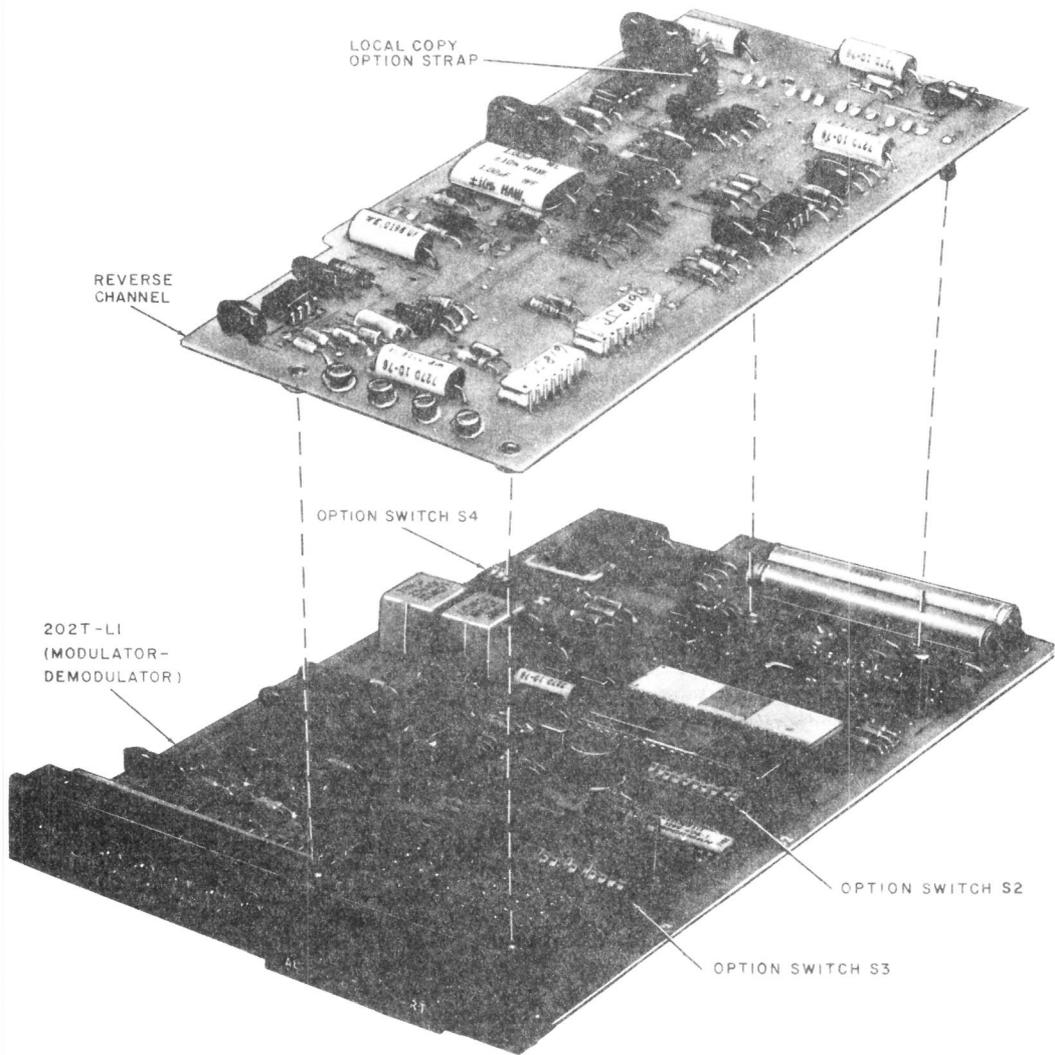

Fig. 2—Data Set 202T-L1A/3B
2.02 Data set 202T-L1 or 202T-L1A is contained on a printed circuit wiring board (Fig. 2). There are three test switches and six status indicator lamps on the faceplate of the printed circuit wiring board.
2.10 Data set 202T-L1/3 (Fig. 2), 202T-L1/3A or 202T-L1A/3B provides everything provided by list 1 plus a reverse channel circuit pack (JY1, JY2, or JY4). This circuit pack is a printed wiring board measuring 1 inch high, 3.4 inches wide, 7.5 inches long, and weighing 0.5 pounds. It includes the filters, switching circuits, and demodulator circuits needed to perform the reverse channel function. Interconnection to the data set is accomplished by 20 female contact receptacles mounted on the bottom of the reverse channel circuit pack. This circuit pack mounts on contact posts on the data set and covers switch assemblies S2 and S3. The circuit pack must be removed when installing or removing options.